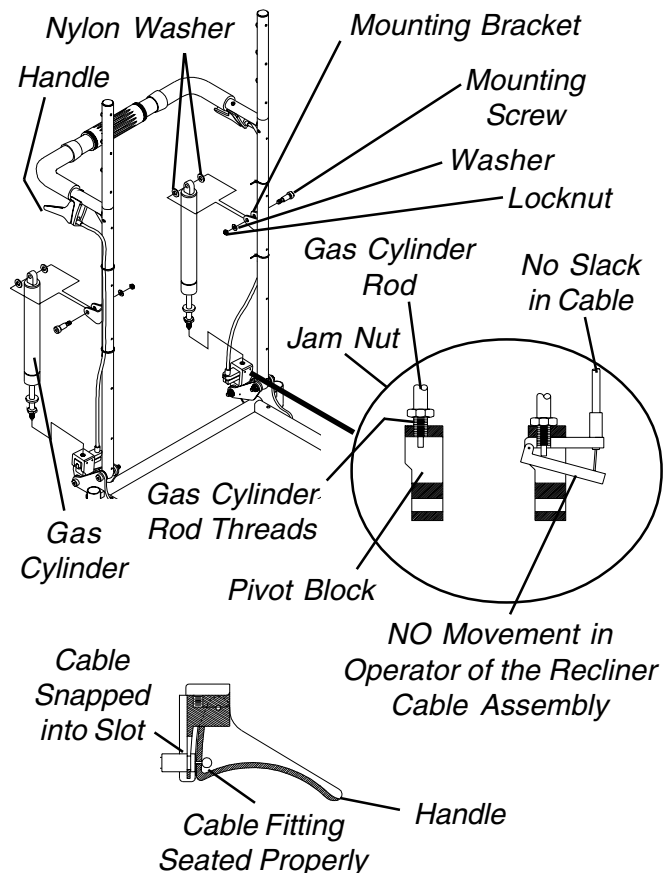

FIGURE 4 - REPLACING/ADJUSTING GAS CYLINDERS
REPLACING/ADJUSTING GAS CYLINDERS (FIGURE 4)
4. Screw cylinder rod of the NEW gas cylinder into the pivot block until the threads of the cylinder rod are flush with inside of pivot block (FIGURE 4).
- A. Finger tighten the jam nut on the rod of the gas cylinder until it bottoms out on the rod of the cylinder (**FIGURE 4**).